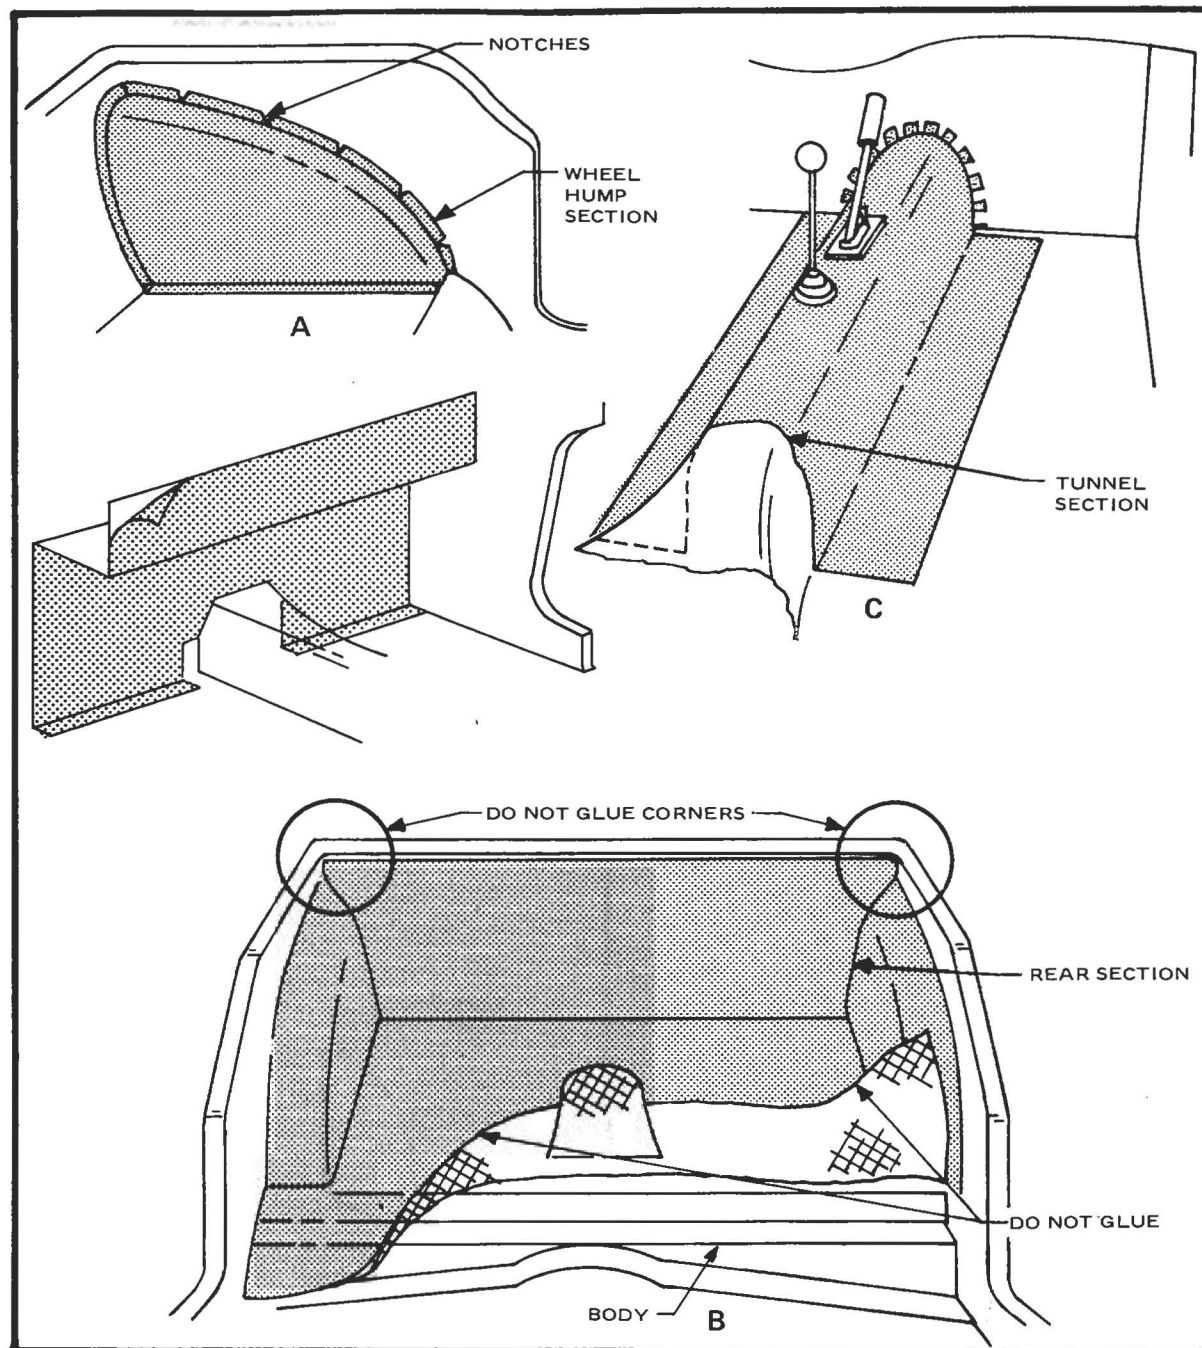

Figure 59
- ☐ Side sections fit around the door openings, extend forward to the fire wall and back over the wheel hump. They must be mounted on a piece of heavy cardboard or paneling before they can be installed. This is due to the configuration of the body around the doors. As a basic pattern cut a piece of cardboard to the sizes indicated. (Figure 59)